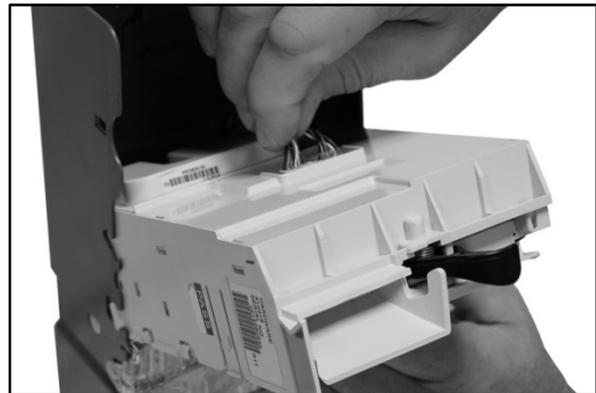

Figure 2. Disconnecting the 2 harnesses.
3. Disconnect the two harnesses from the acceptor (see Figure 2). Lift the acceptor slightly to free the lower acceptor studs from the changer housing. Place the acceptor in a clean, dry area.